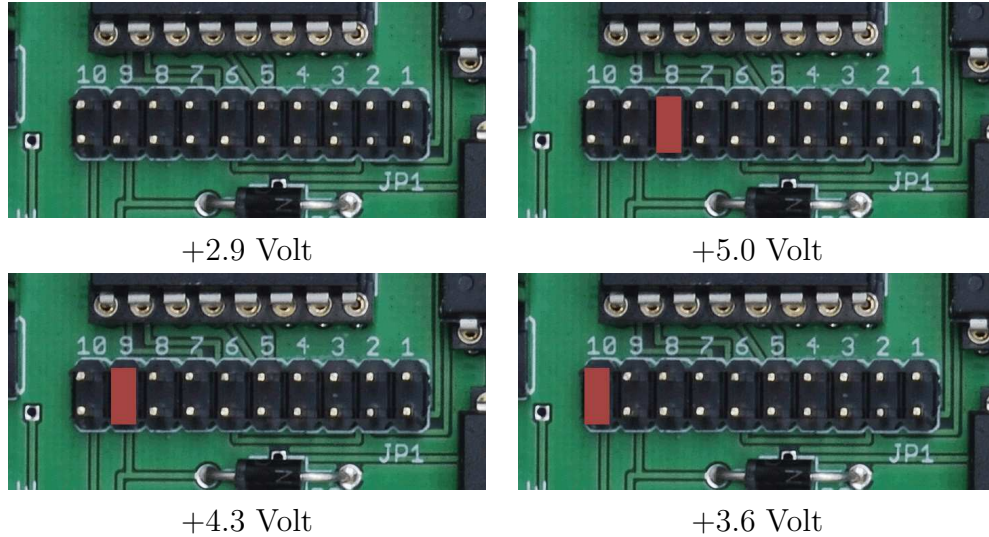
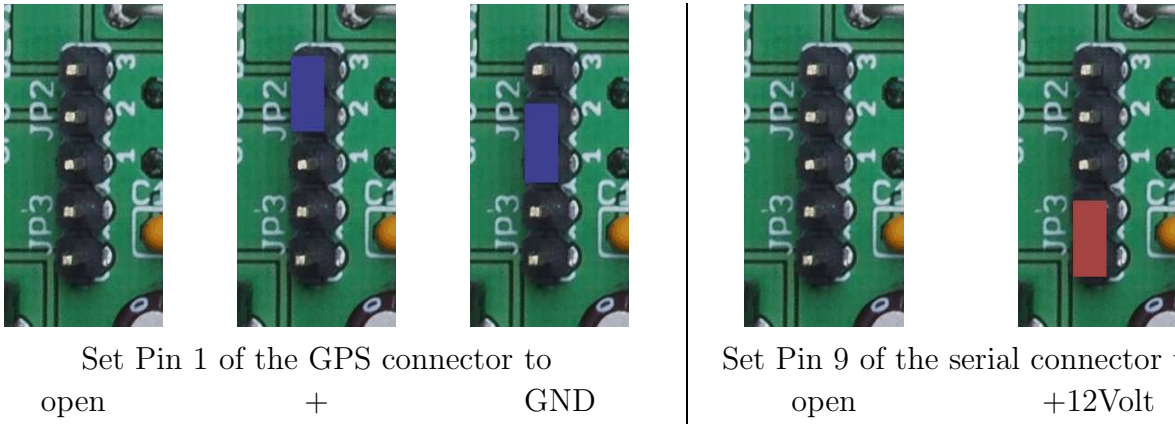

Figure 21: Jumper JP1.
Figure 22: Jumper JP2 and Jumper JP3 settings for Pin 1 of the GPS connector and Pin 9 of the serial connector.
2. Jumper JP2 allows to connect Pin 1 of the GPS connector with GND or +5/+4.3/+3.6/+2.9 Volt depending on the setting of Jumper JP1, see Figure 22 to the left. JP3 allows to connect +12 Volt to Pin 9 of the serial 9-ways Sub-D connector, see Figure 22 to the right.
power supply. The LVS version is designed to operated from a voltage of 3.6 Volt to 6 Volt. Its current consumption is approximately 150 mA. Here we recommend to use a separate voltage regulator, or a separate power supply. Both can easily be connected to the board if the red wire of the GPS is connected to Pin 1 of the straight header. Then at Pin 1 (ground) and Pin 2 (+V) of Jumper J2 a power supply for the GPS device can be connected. If you are using a sufficient large cooling device, you can also connect Pin 2 to the 5 Volt power of the evaluation board provided after the voltage regulator, see Figure 21 and Figure 22.